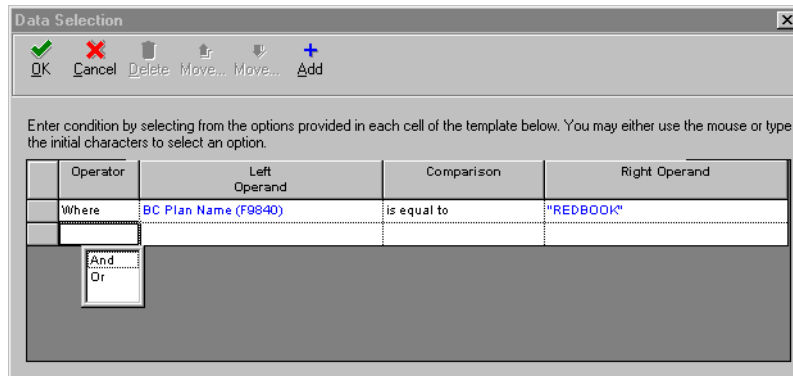

Figure 76. OneWorld Planner Validation Report data selection (Part 2 of 3)
8. The Data Selection form re-appears with your plan name showing in the Right Operand, similar to the example in Figure 76. Click **OK**.